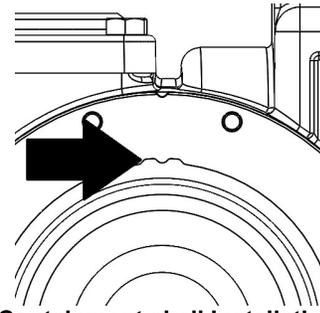

Figure 13 – Containment shell Installation Orientation
10. Install key (35A) into rotor/shaft (13) keyway. Slide driven magnet assembly (52) onto rotor/shaft (13). Place washer (58) and capscrew (59) onto end of shaft and hand tighten. Torque screw to 12.5 ft-lbf (17 Nm).
11. Install containment shell o-ring into inboard head. Install containment shell (50) onto inboard head dowel (20). Rotate containment shell retaining groove towards the top of the pump as shown in Figure 13. This will align it with the pin in the magnet housing.